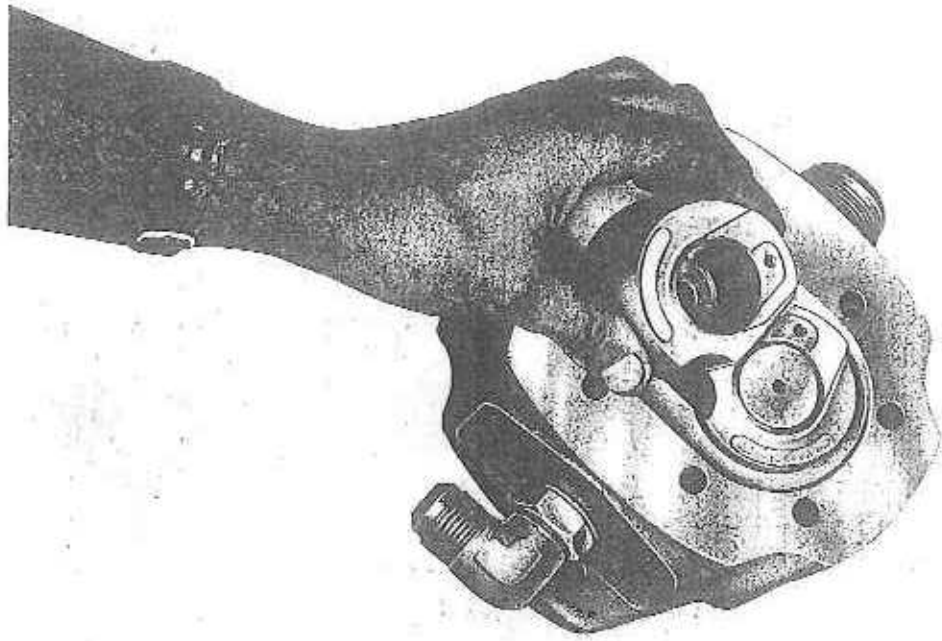

FIG. 5
5. (Fig. 5). Remove the bearing blocks from the pump body.